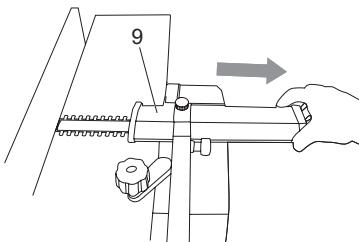

Fig. 26
- > Slide the blade guard (9) out as far as it will go. (Fig. 26)